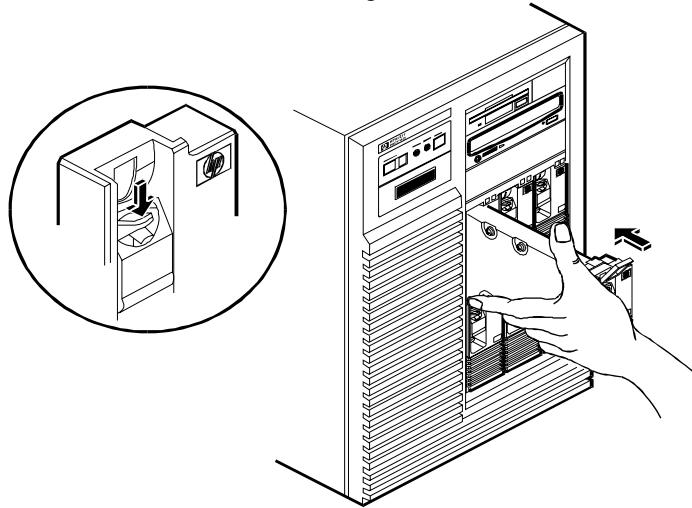

Figure 1-3. Installing the Hot Swap Hard Disk Drive
2. On the hot swap hard disk drive, press the locking tab down, and lift the lever up as far as it can go. (See Figure 1-3.) Lifting the lever retracts the locking pin at the top of the hard disk drive.
3. Holding the hard disk drive as shown in Figure 1-3, slide the hot swap hard disk drive slowly into the shelf until it stops.